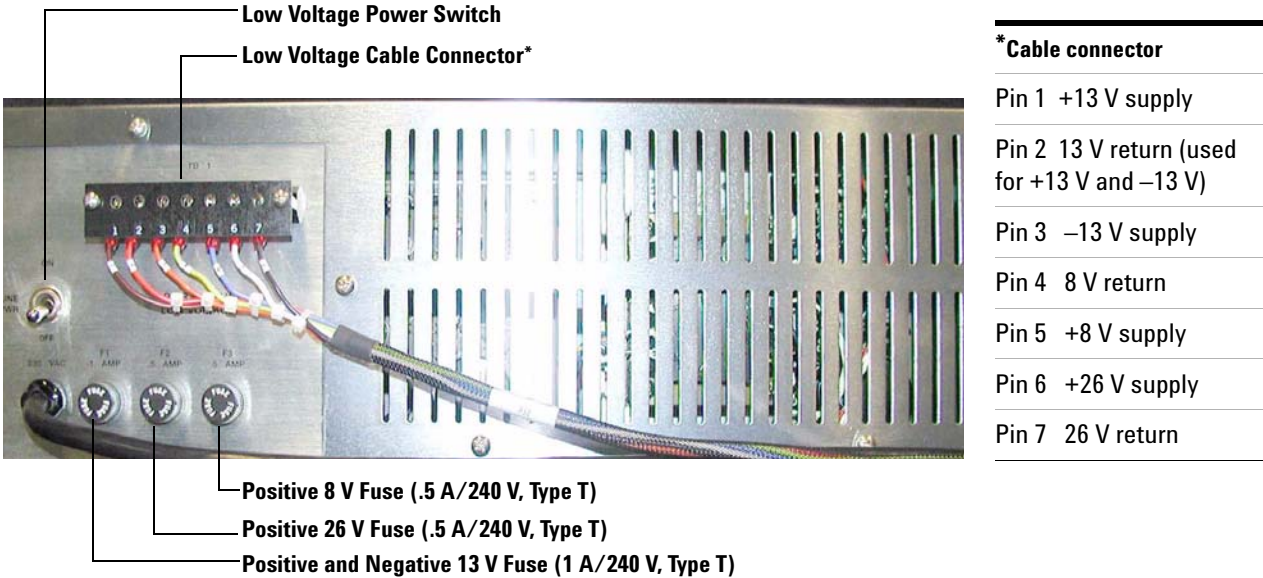

Figure 5 Low Voltage Supply
- 2 Turn on the low voltage supply (Figure 5 on page 11).